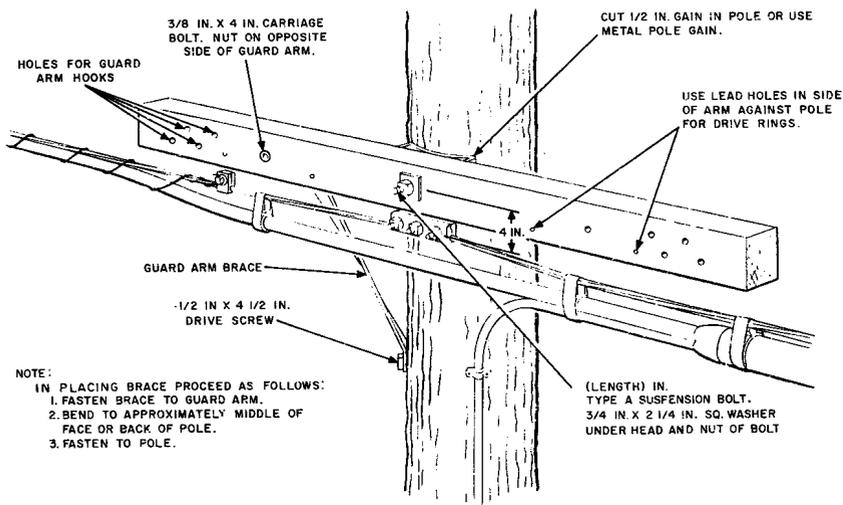

FIGURE 1. Guard Arm Installed
2.01 A properly installed guard arm is shown in Figure 1.